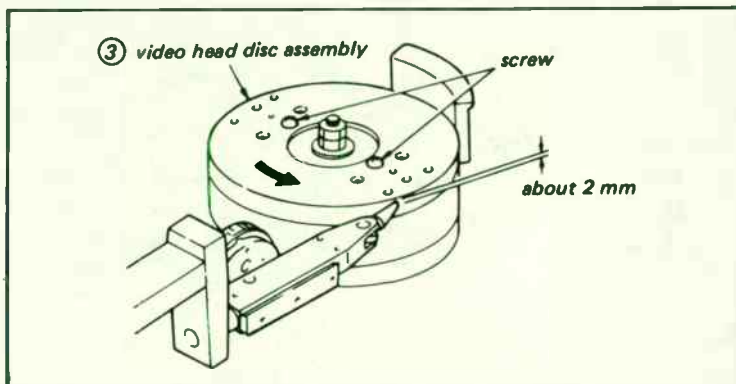

Fig. 5-25. Drum eccentricity measurement.
deflection is within 3 microns, by very gently tapping the inner circle edge of the video head disc assembly (3) with the blade of a screwdriver. Refer to Fig. 5-25.